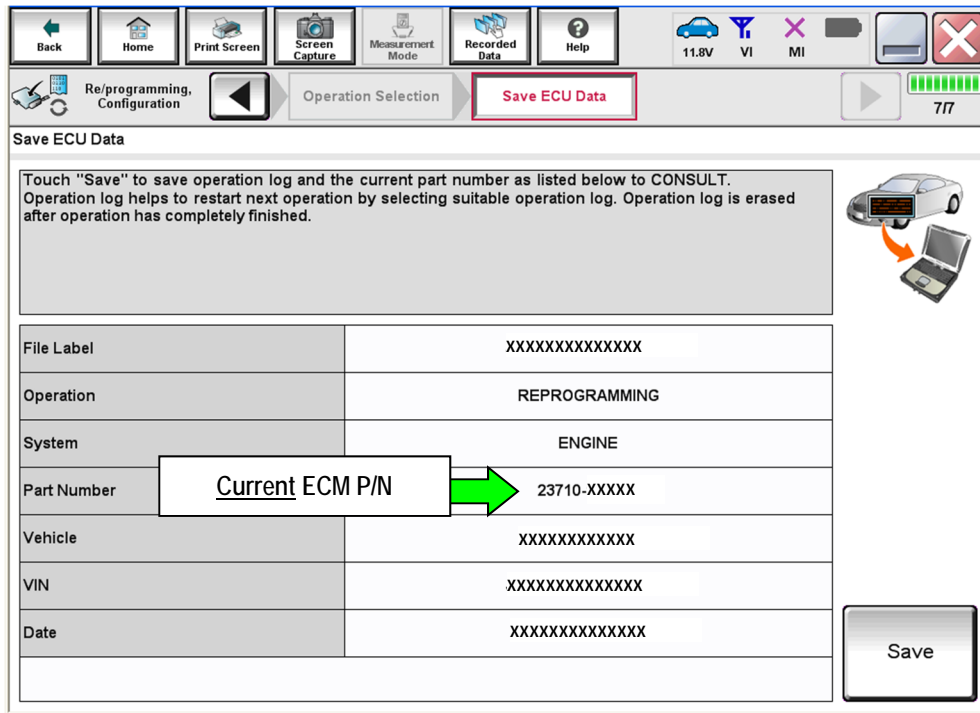

Figure 2
5. Follow the on-screen instructions and navigate CONSULT to the screen shown in Figure 2 on the next page.
6. When you get to the screen shown in Figure 2, confirm that a reprogram is available as follows.